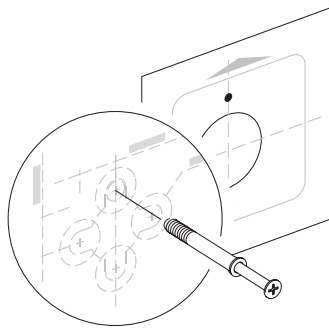

Figure 6.4. Installation of wall anchors
- Tear off the circle on the mounting template (along the perforation line) which marks the ventilation duct, and match it to the air duct opening. Use a leveling tool to ensure the accuracy of horizontal alignment. Mark the positions for the two wall anchors according to the selected type of placement. Drill holes for the two wall anchors according to the marking and install them (Figure 6.4).